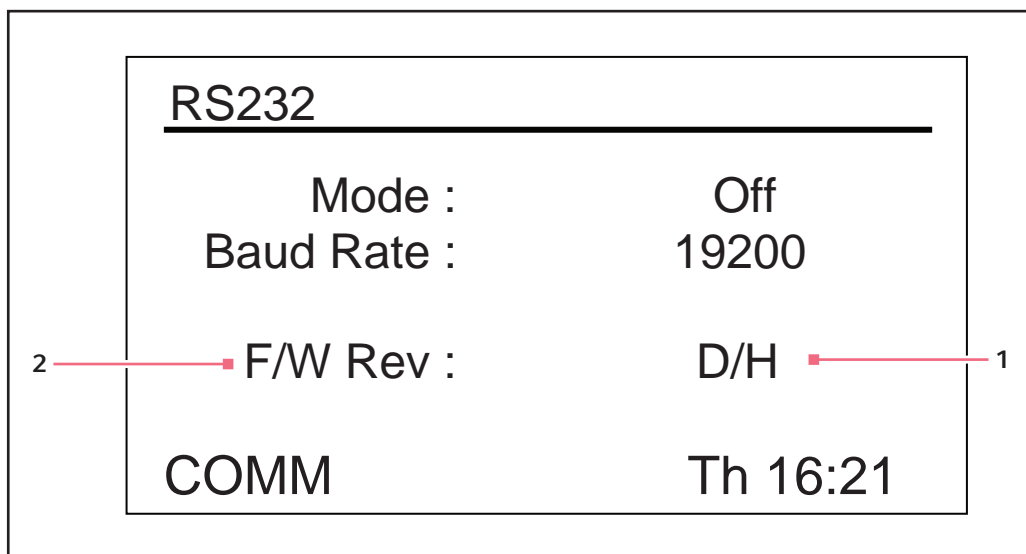

Fig. 9-7: RS232 screen
This screen (see Fig. 9-7 on p. 54) is used only if you have connected a personal computer to the RS-232 port (see *Software interfaces on p. 37*). Here you can select the RS-232 port's *Mode* and the *Baud Rate* appropriate to your PC.
1. Turn the control knob to highlight the current setting (*Off* in the sample screen, (see Fig. 9-7 on p. 54)), then click the knob in.
2. Turn the control knob left or right until the desired mode setting appears (see *Turn the control knob to highlight the current setting (Off in the sample screen, (see Fig. 9-7 on p. 54)), then click the knob in. on p. 54).*
1. Turn the control knob to highlight the current setting (19200 in the sample screen, (see Fig. 9-7 on p. 54)), then click the knob inward once.